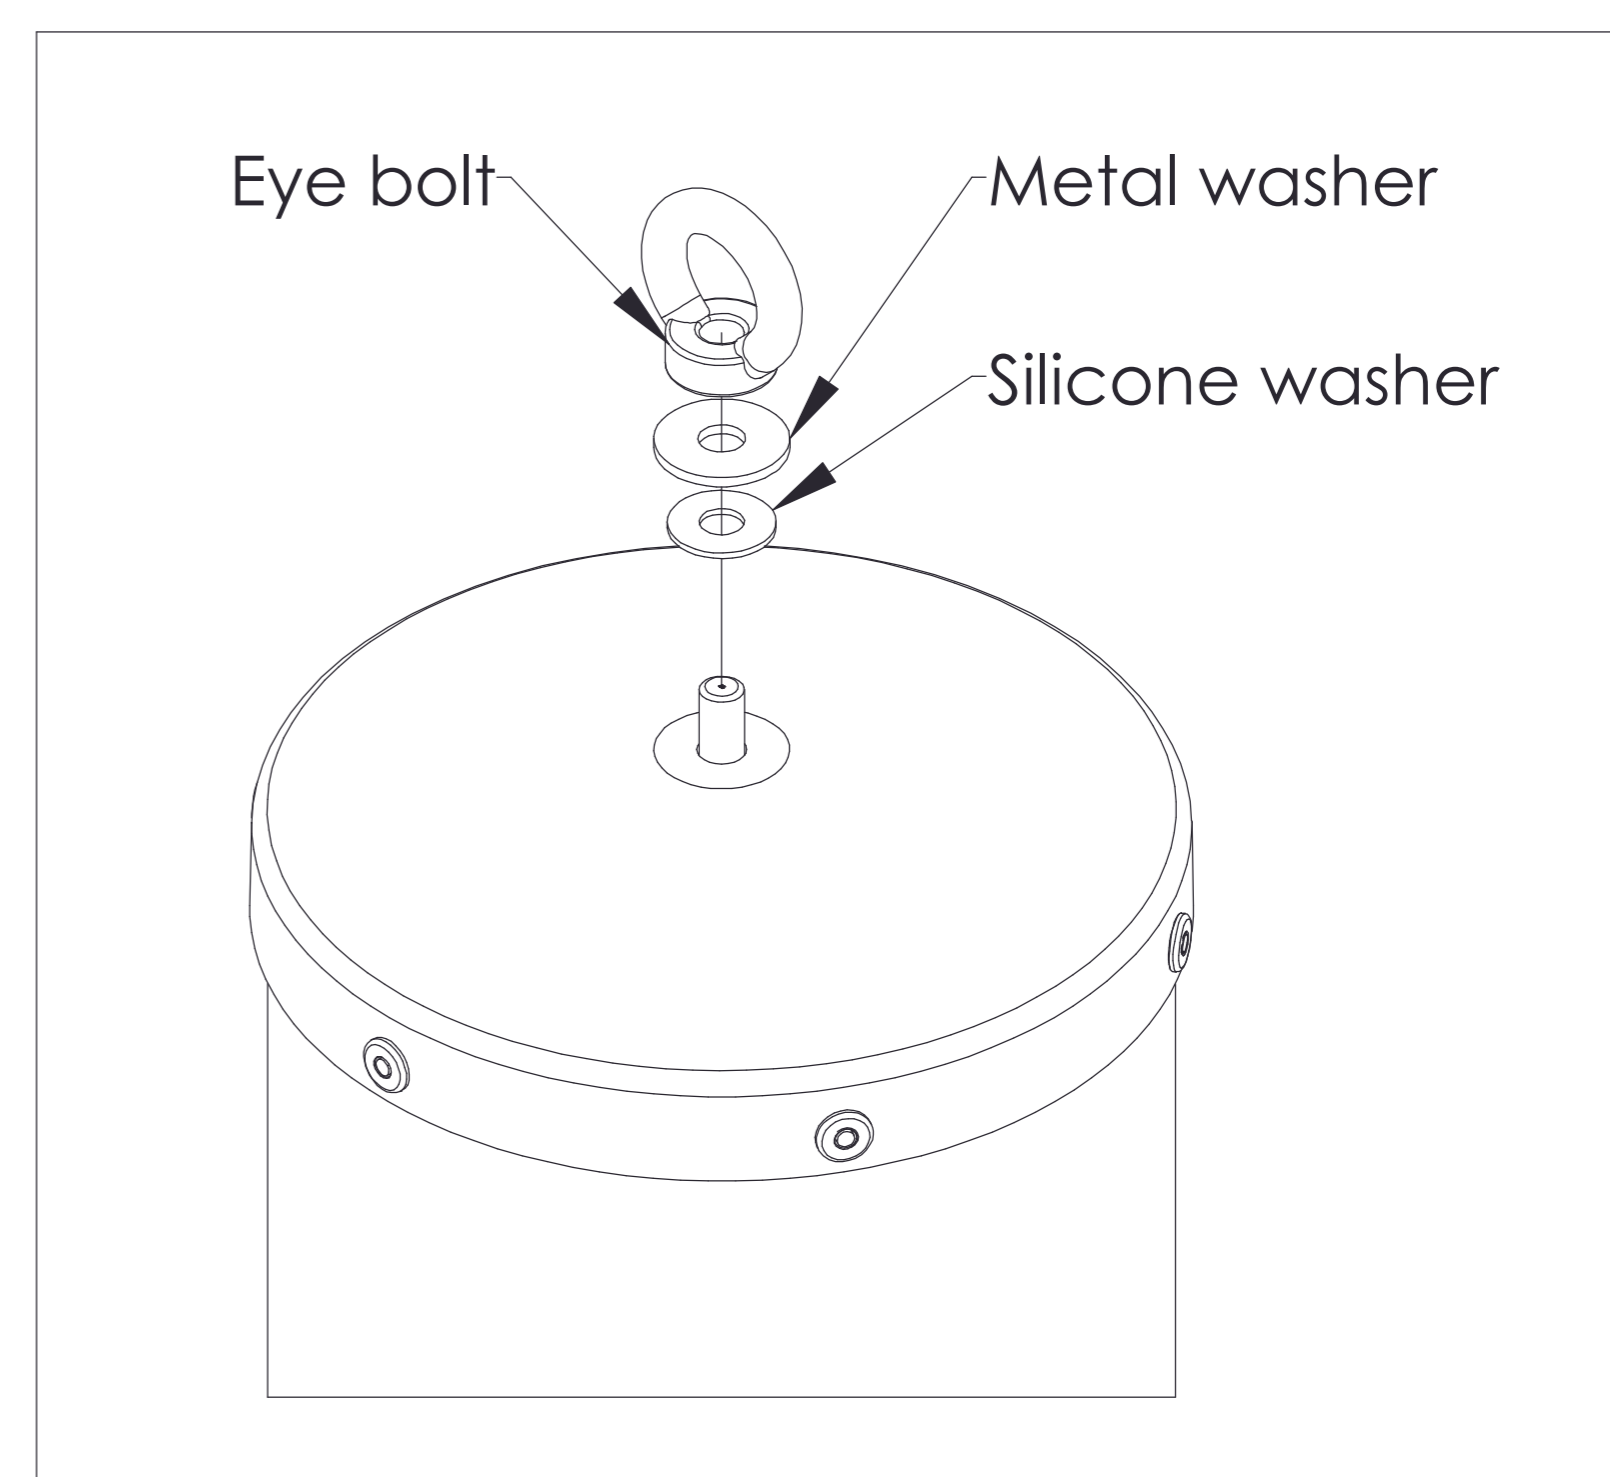

Figure 8
**Take off the eye bolt, metal washer and silicone washer; Clean the silicone adhesive on screw and endcap. (Figure 8)**